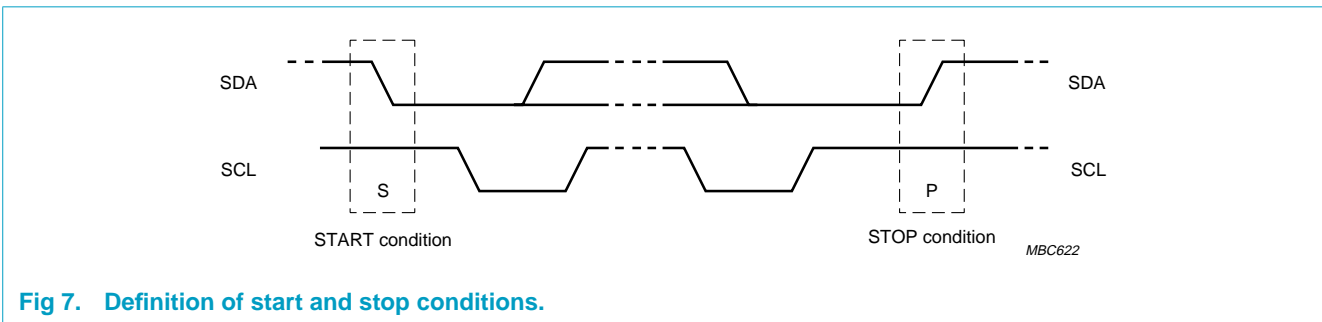

Fig 7. Definition of start and stop conditions.
Both data and clock lines remain HIGH when the bus is not busy. A HIGH-to-LOW transition of the data line, while the clock is HIGH is defined as the start condition (S). A LOW-to-HIGH transition of the data line while the clock is HIGH is defined as the stop condition (P), see Figure 7.